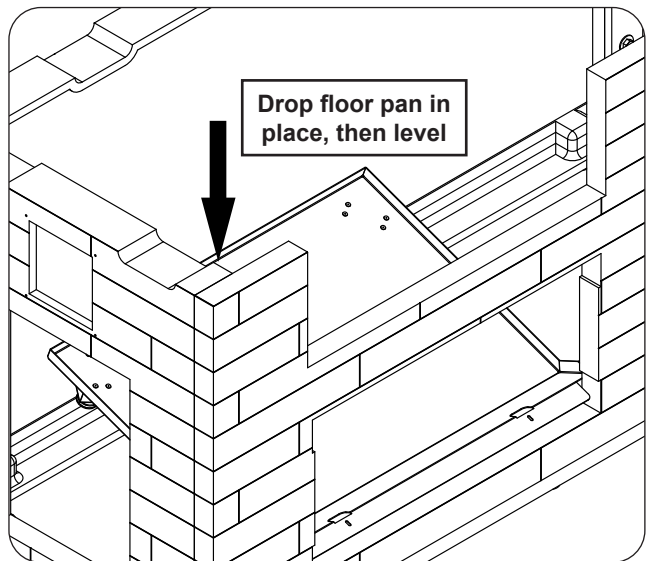

Fig. 15-3 Place floor pan
1. Place floor pan into the double door cutout as shown (see Fig. 15-3).